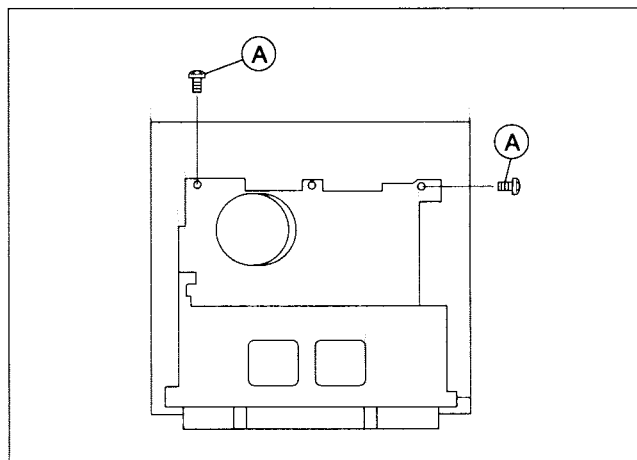

Fig. 1-5-1
- (3) Take out 2 screws (A) as shown in Fig. 1-5-1.